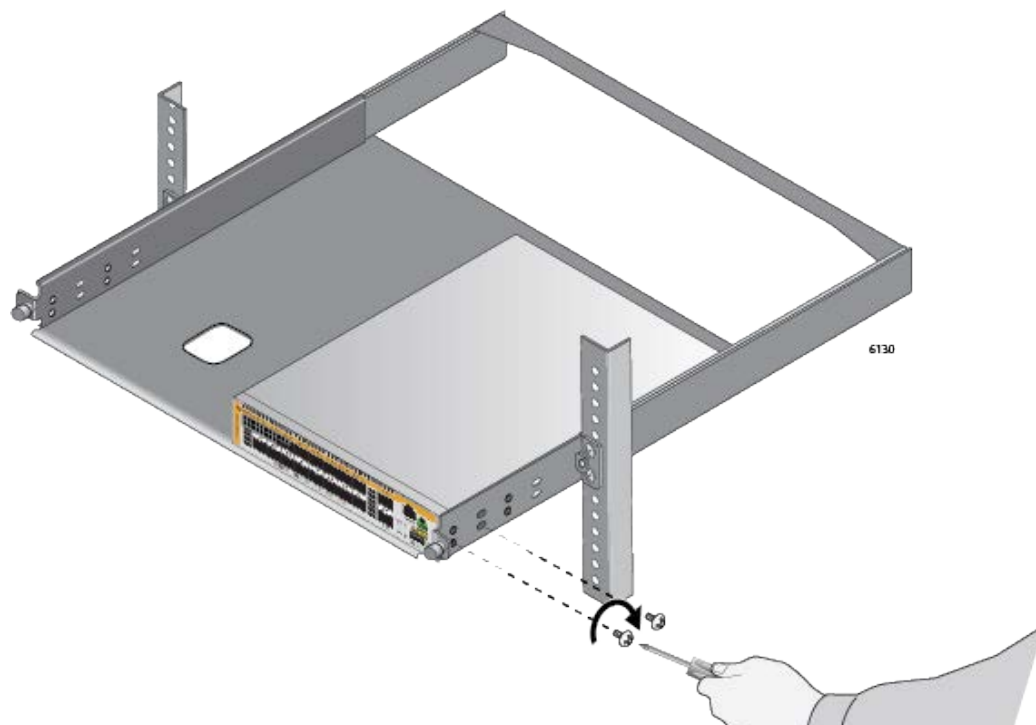

Figure 36. Securing the Switch to the RKMT-J15 Tray
9. Install two M4x6mm screws included with the RKMT-J15 rack mount kit to secure the switch to the tray. See Figure 36 on page 70.